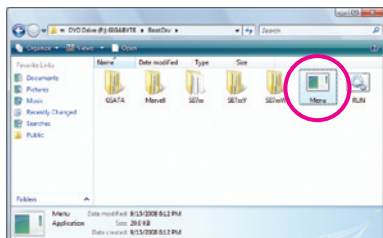
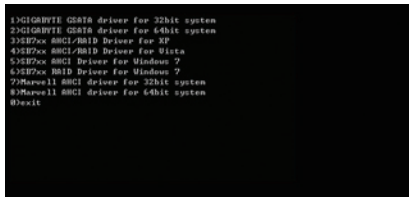

Figure 2
Figure 3
- 2: From your optical drive folder, double click the Menu.exe file in the BootDrv folder (Figure 2). A Command Prompt window will open similar to that in Figure 3.
- 3: Insert the blank formatted disk. Depending on the operating system to be installed, select the controller driver by pressing the corresponding letter from the menu and press <Enter>. For example, from the menu in Figure 3, For the AMD SB710, select **3) SB7XX AHCI/RAID Driver for XP** for Windows XP operating system.